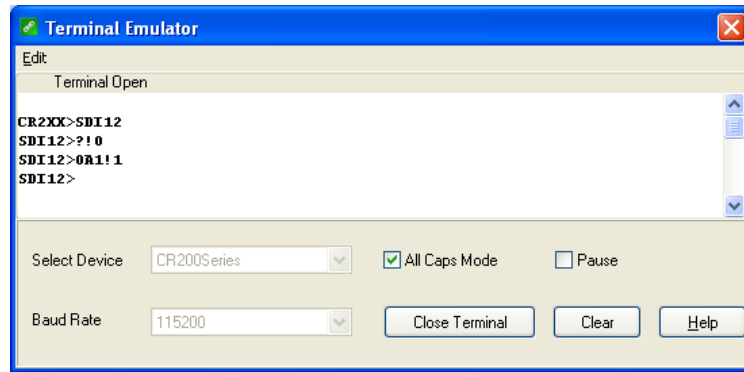

FIGURE D-1. CR200(X) example of using the SDI-12 transparent mode to change the SDI-12 address from 0 to 1.
D.2.1 CR200(X) Series Datalogger Example
6. To change the SDI-12 address, key in **aAb!** <enter>, where *a* is the current address from the above step and *b* is the new address (see FIGURE D-1). The CS451/CS456 will change its address and the datalogger will respond with the new address. To exit SDI-12 transparent mode select the **Close Terminal** button.